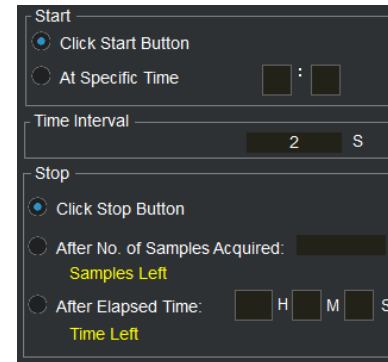

Figure 37. Choose logging interval and start and stop conditions
5. Choose the **logging interval** for your test. For this demo enter **3 Seconds** (Figure 37).